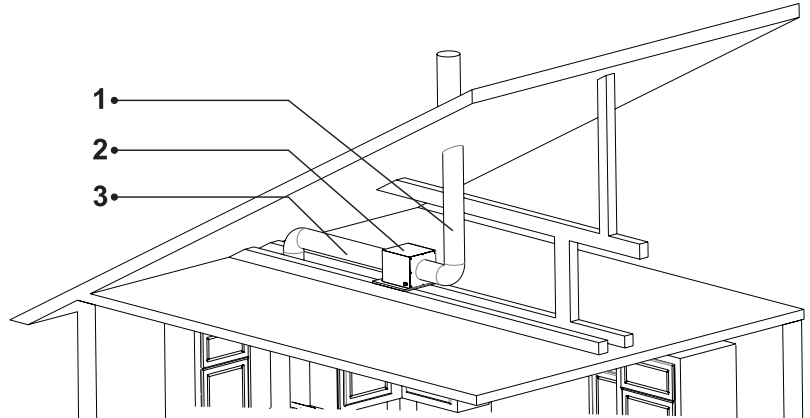

Fig. 12
**4.** ➤ Connect external motor unit pipe connections (Fig. 12).